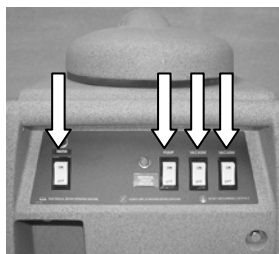

Fig. 5
1. Activate vacuum, pump, and heater switches and proceed to clean (Figure 5).